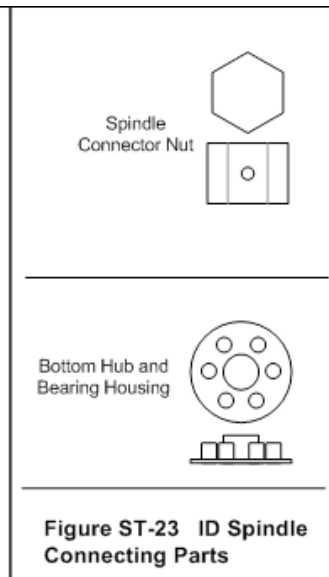

Figure ST-23 ID Spindle Connecting Parts
- Remove the 3 Spindle Arm Assemblies along with the 4 Spindle Connector Nuts, 3 Spindle Upper Support Brackets and 1 Bottom Hub. See Figure ST-23 above for identification.